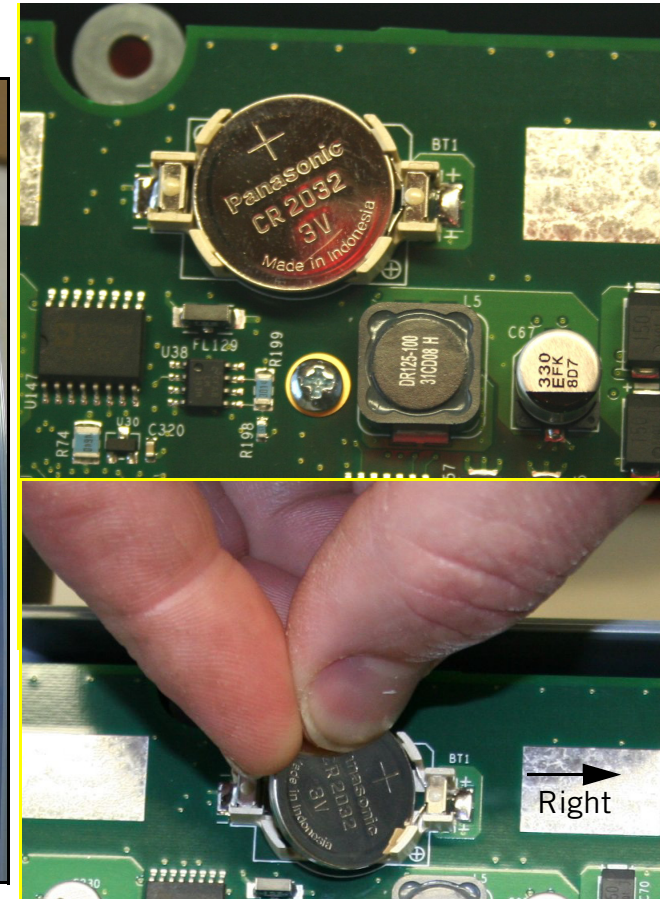

Figure 10.124—Coin battery location
2. With the new coin battery, (202305-000) (type CR2032), at hand, lift up from below the coin battery to remove. The coin battery will pop out of the holder. To install, slide in the new battery with (+) terminal up, place battery into right side of battery holder first. Press down to secure (see Figure 10.124 on p. 482).